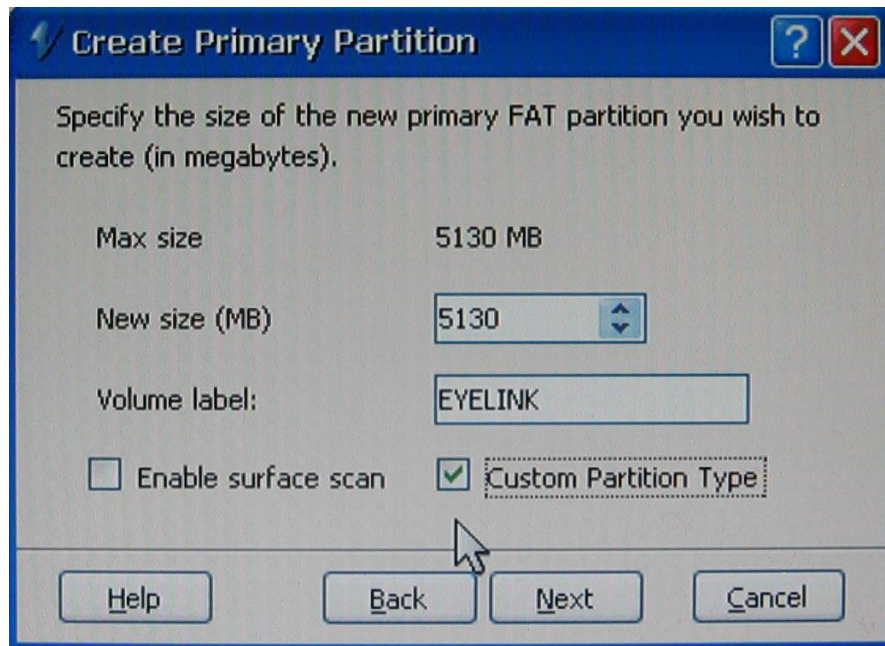

Figure 4-8 Custom Partition Type
4. In the 'Volume label' field type EYELINK and **ensure that the 'Custom Partition Type' box is checked**. Click 'Next' to bring up the 'Custom Partition Type' window as illustrated in Figure 4-8.